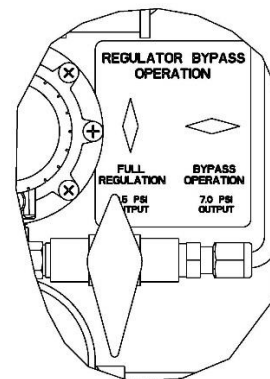

Figure 9b – By-Pass Regulation Valve
1. Return the “Bypass-Reg.” valve to “Reg.” position (Figure 9b).